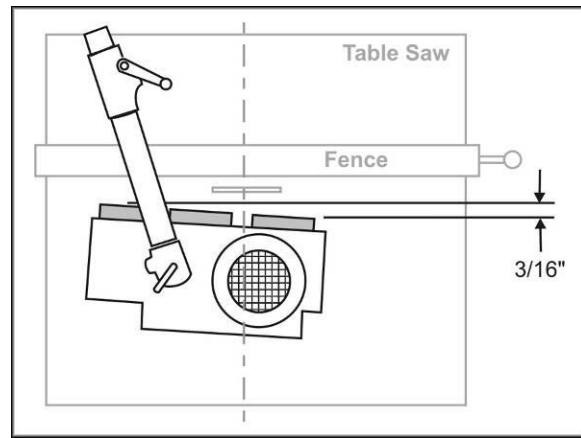

Figure 18
1. Position the Stock Feeder so that the axis of the saw blade lines up between the center roller and infeed roller. See Figure 18. This will allow the Stock Feeder to grip the offcut of the workpiece as it leaves the blade.
2. Rotate the Stock Feeder so that the direction of feed is angled slightly toward the fence by approximately  $3/16''$  (5mm); that is, the outfeed roller should be slightly closer to the fence than the infeed roller. See Figure 18.